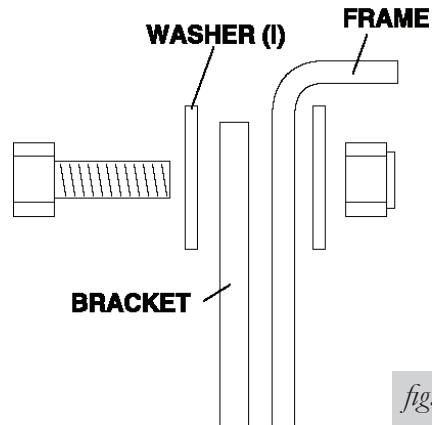

fig. 10
Passenger-side will use bolt (F), washers (I), and nut (J) to attach the upper bracket to the existing hole on the side of the frame (Fig. 10).